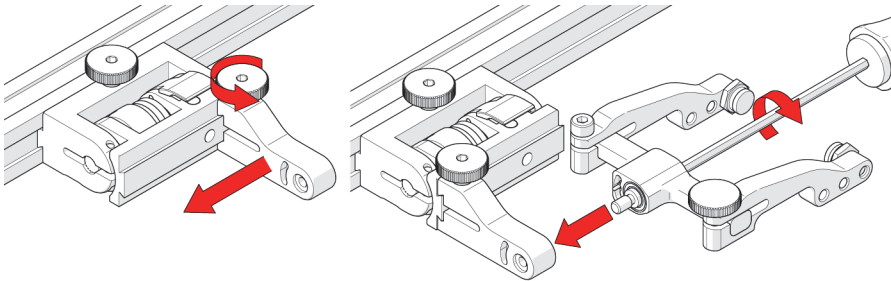

Figure 2-41 Position swing arm, and install yoke to swing arm
6. Loosen the swing arm knob, and slide the swing arm to the opposite end of the probe holder bracket (see Figure 2-41 on page 64) or the preferred position. Tighten the swing arm knob.
7. Using the 3 mm hex driver, screw the yoke pivot screw into the opposite side of the probe holder swing arm (see Figure 2-41 on page 64). Ensure the yoke is level to avoid issues with the plunger/set screw.